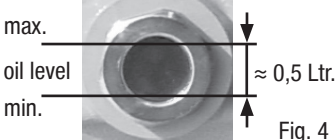

Fig. 4
- Oil level: The oil level from the factory reaches the upper edge of the sight glass. The oil level must be regulated in operation; if necessary to achieve a correct oil level (see Fig. 4), oil may have to be drained off or added.